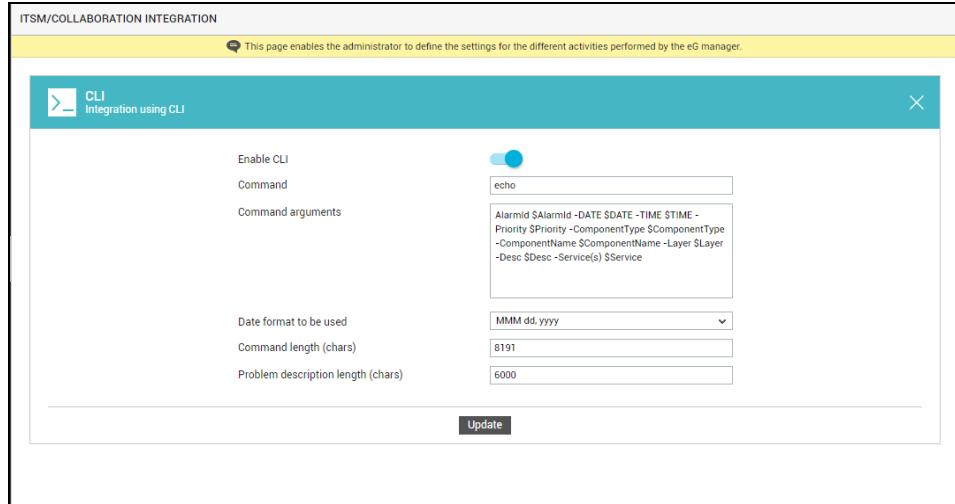

Figure 4.2: Configuring the TT mail settings
4. Now, click on the **CLI** option in the right panel (see Figure 4.1). A **CLI** section will now appear in the right panel (see Figure 4.2).